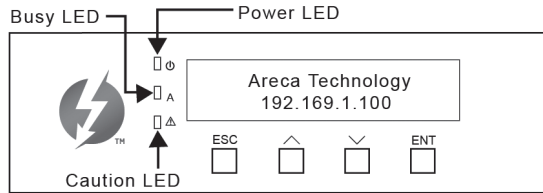

Figure 2-2, LCD Panel LED for ARC-8050 RAID Storage
There are a variety of status conditions that cause the RAID storage panel monitoring LED to light. The front panel LCD comes with three (3) status-indicating LEDs. The LEDs on the front panel are defined, from top to bottom, Power, Busy, and Caution, as shown in Figure 2-2.